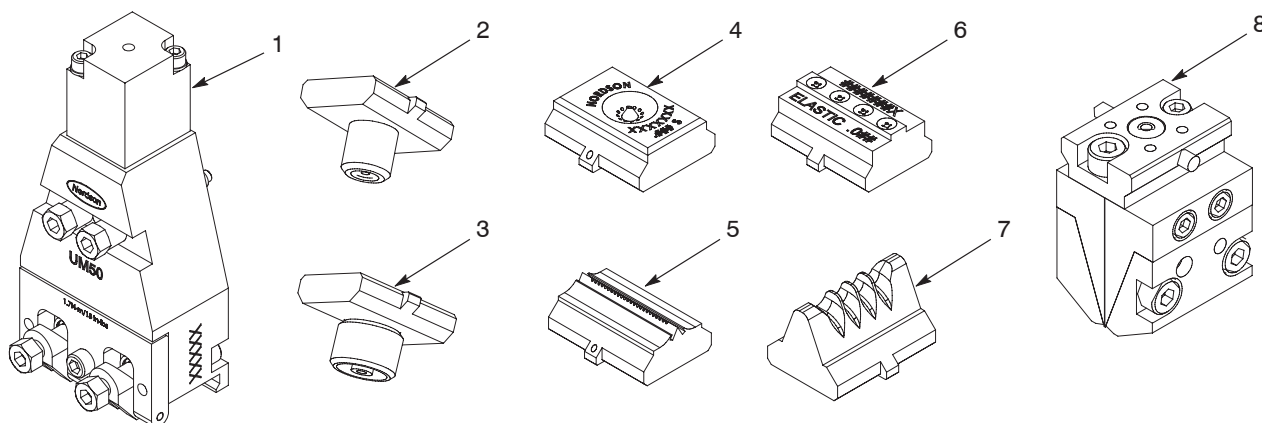

Figure 9-1 UM50 module and associated adapters and nozzles
This section provides troubleshooting, repair, parts, and specification information for applicators with UM50 Universal modules. The UM50 module, either directly or through the use of an adapter, can dispense adhesive in a variety of spray applications, including Controlled Fiberization (CF), meltblown, Summit, SureWrap, and Control Coat applications. Table 9-1 shows the available UM50 modules. Figure 9-1 shows the key components of the UM50 module parts family.